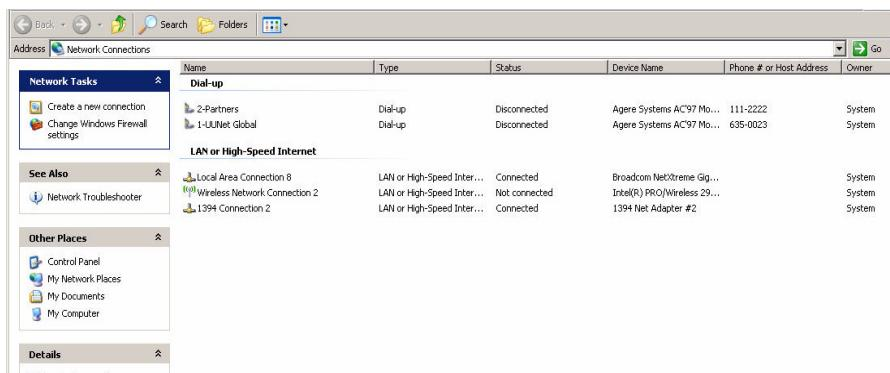

Figure 32 Network Connections Dialog Box (details view)
- 1 Open the 'Network Connections' dialog from the Windows Control Panel. You can also open this dialog from the *Start > Run* box by opening '**ncpa.cpl**'. See Figure 32 below.